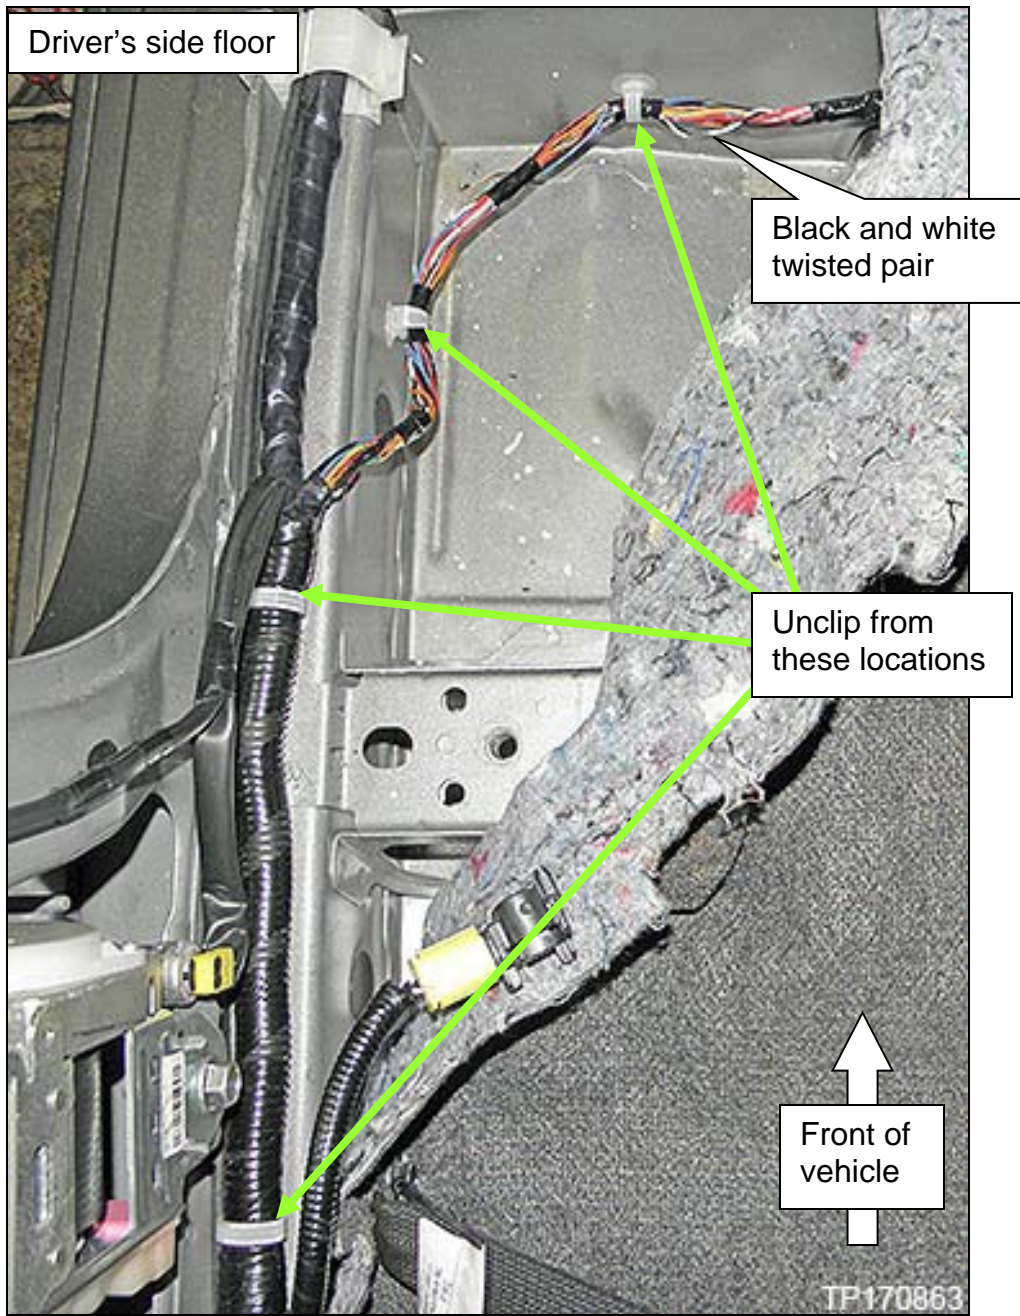

Figure 46
38. Unclip the four (4) harness straps shown in Figure 46 from the vehicle.